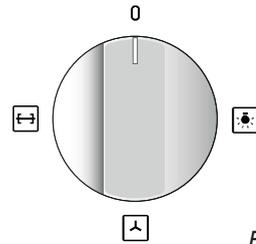

Fig. 4.6a
The fan is controlled by a knob (fig. 4.6a, 4.6b or 4.6c).
- To operate the fan motor turn the knob indicated in fig. 4.6a, 4.6b or 4.6c to  or  position. (In the position  also the rotisserie motor is operating).
To light the oven lamp turn the knob (fig. 4.6a, 4.6b, 4.6c or 4.9a or 4.9b) to the symbol .
The rotisserie motor is operated by a switch knob (fig. 4.6a, 4.6c or 4.9b-  or  position).